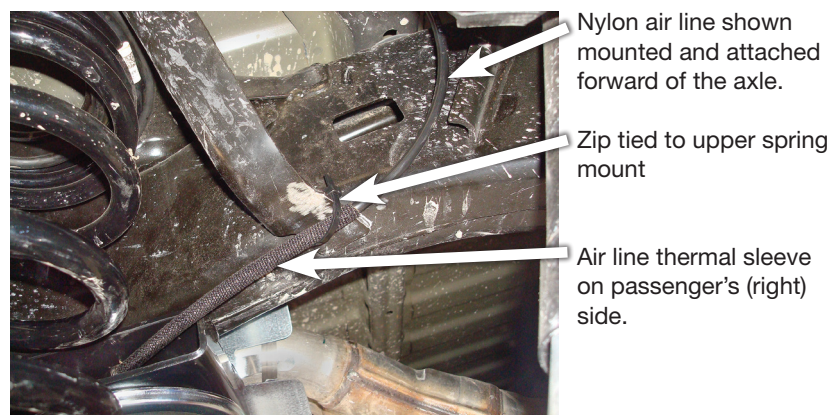

Fig. 26
5. It is recommended that the air line be routed along the top of the frame, forward of the axle, then down to the fitting (Fig. 26). After cutting the air line to length, install the air line thermal sleeve over the air line on the passenger's (right) side before inserting into the fitting. Secure the air lines to the upper coil spring mount with zip ties (BB) supplied. Also see Figure 27.